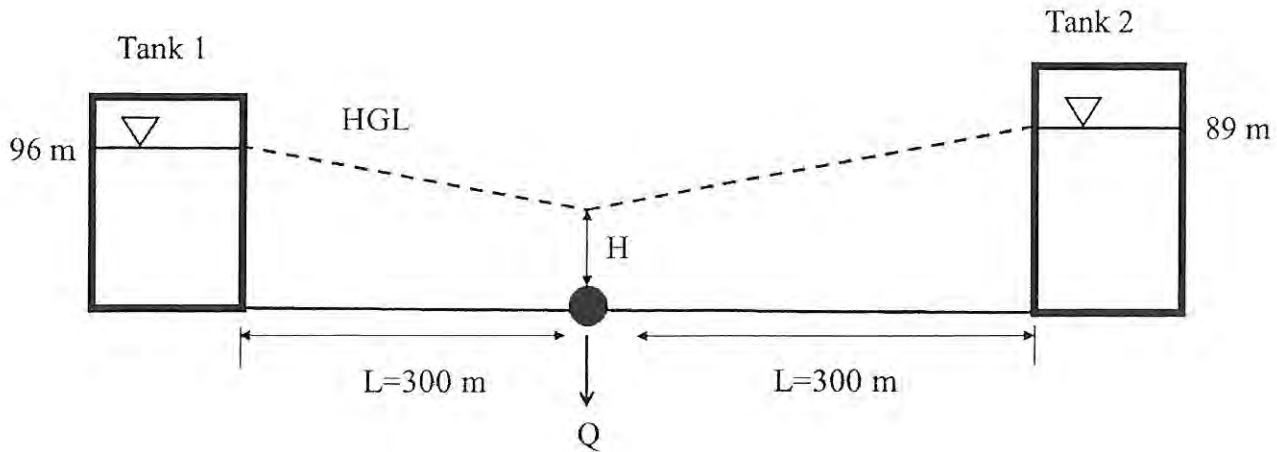

Figure 4. Water supply system.
- Two elevated tanks supply water to a demand node with a valve at its outlet (Figure 4). The elevated tanks are cylindrical and have diameters of 5 m. The initial water level in Tank 1 is 96 m and the initial water level in Tank 2 is 89 m. The valve is half open and has a discharge coefficient of  $0.10 \text{ m}^{5/2}/\text{s}$ . The initial steady-state flow through the valve is 300 L/s. The valve discharges to the atmosphere. Both pipes have a Hazen-Williams 'C' factor of 110, an internal diameter of 250 mm, and a length of 300 m. Assuming quasi-steady conditions in the system, determine the pressure head at the demand node and the flow in the pipes in the first three time steps of the simulation. Use a time step of 10 seconds to carry out the quasi-steady state simulation.